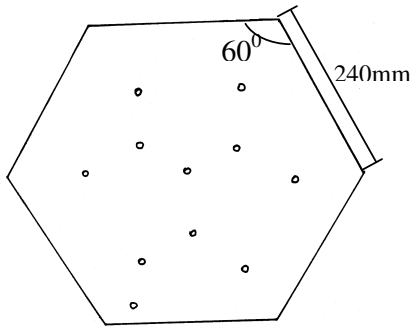

Fig. 5. Floor of hexagonal nest box
Step 2. Cut 9mm hardwood ply into a 240mm sided hexagon (see Fig. 5)